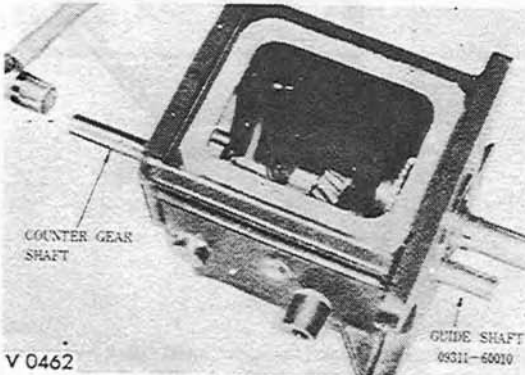

Fig. 3-43. Installing the counter gear shaft in the transmission case.
4. Install the counter gear shaft driving out guide shaft into the case from the back. (Fig. 3-43)